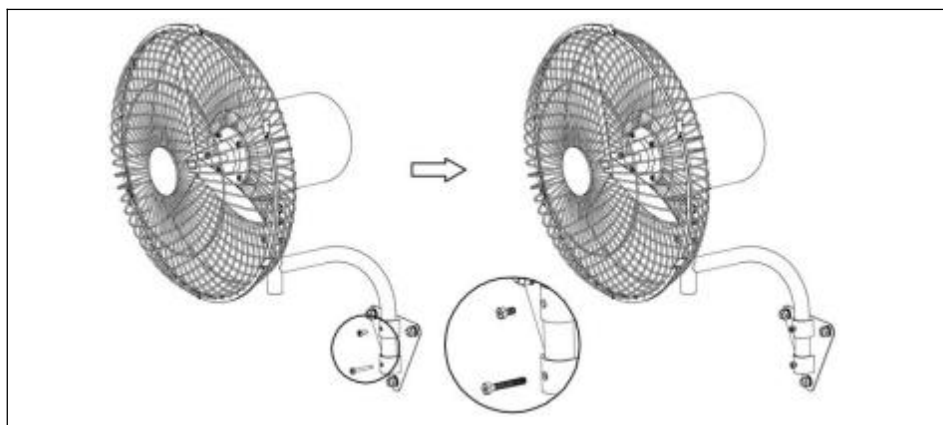

Fig.9.
2). Install the fan body on the wall panel(2), and then lock the bracket screws1(4) and the bracket screws2 (5). Note, that the screw holes on the bracket should correspond to the screw holes on the wall hanging panel. See the (Fig.9.).